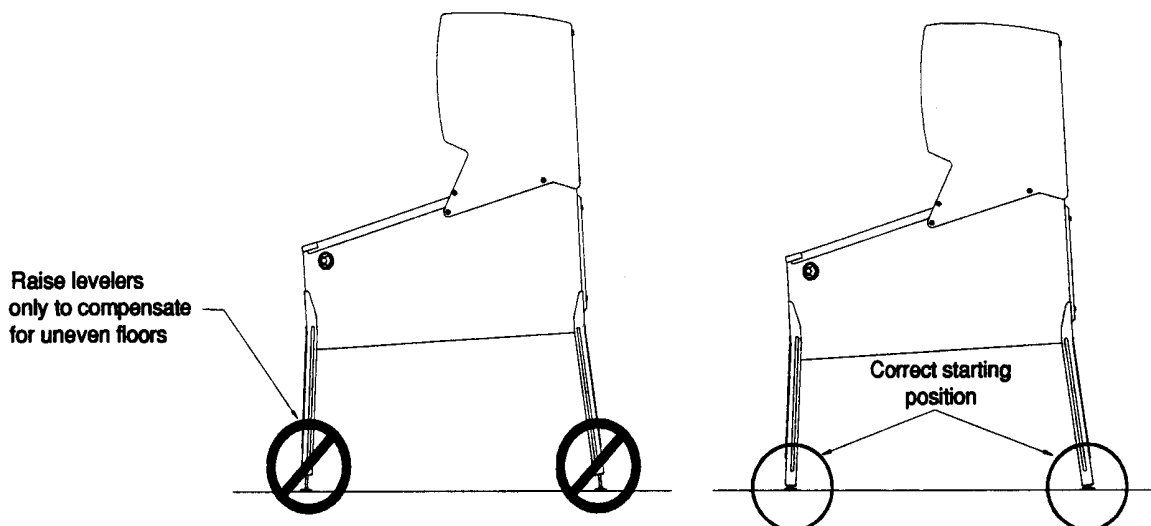

FIGURE 14
18. Move the game to the desired location. Screw the leg levelers all the way into the legs. If the floor is level, the cabinet is designed to position the playfield at exactly the recommended 6-1/2 degree angle. This places the game in a FIXED position. If the floor is not level, continue to adjust the levelers to compensate (see Step 18 below). On carpeting, the game must be allowed to settle overnight. Check the level and pitch again the next day. See Figure 14.